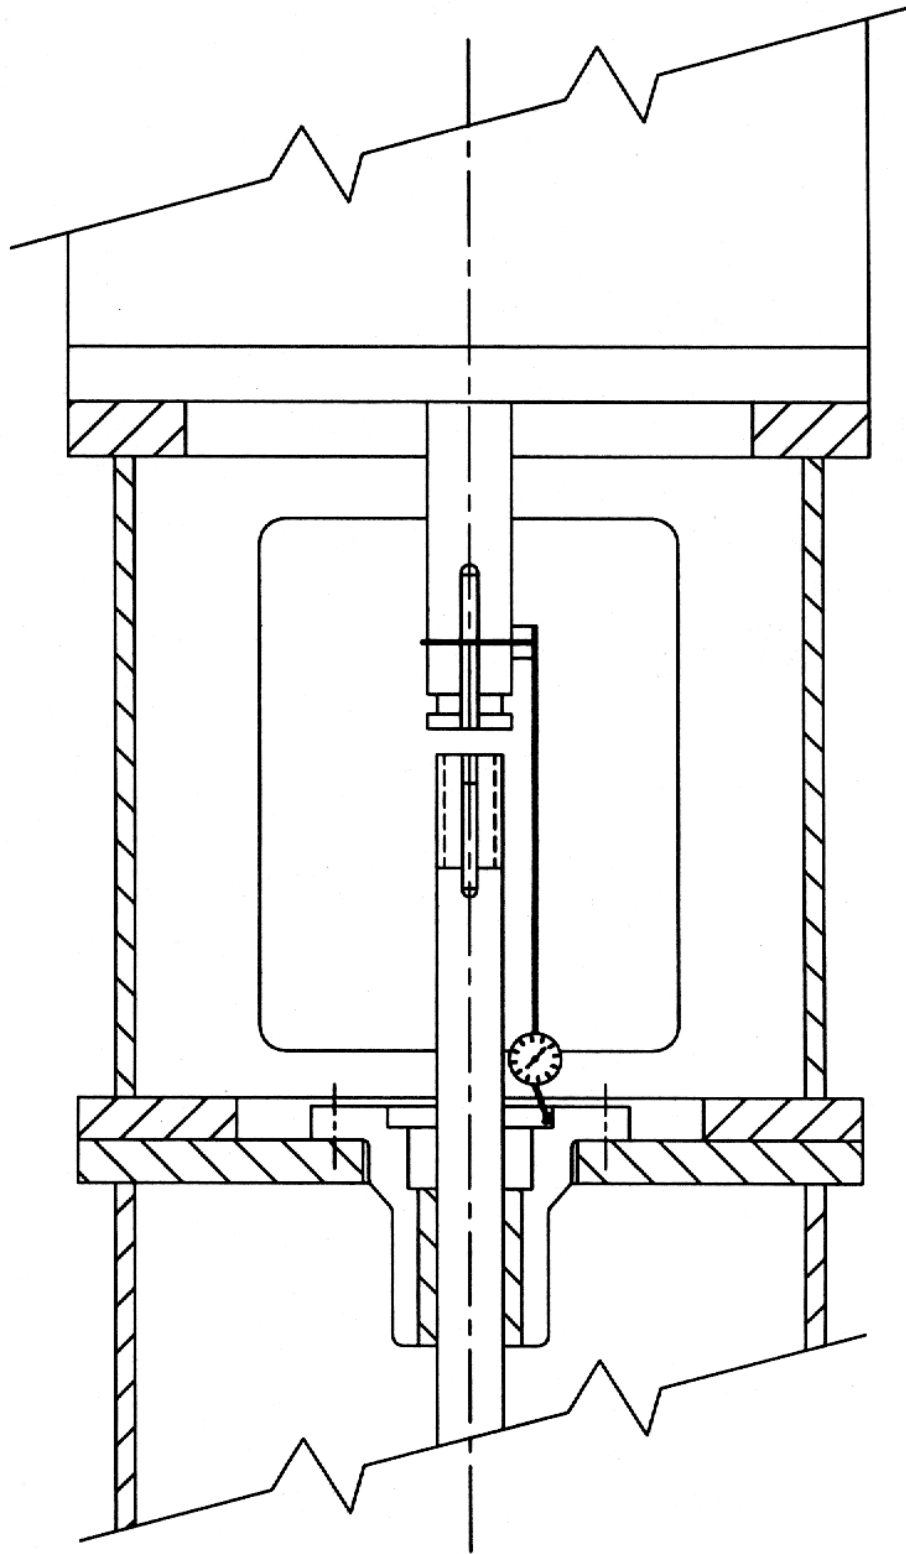

Fig. 10
- C. **Concentricity of Seal Housing** (See Fig. 10). This measurement will require that the mechanical seal be removed. Install dial indicator as shown. By rotating driver shaft by hand, run indicator in the inside machined surface of the seal housing to determine concentricity. If indicator reads above 0.004 in. (0.10mm) TIR, loosen the four driver tie down bolts and relocate driver on motor base register. Obtain desired position. Tighten tie down bolts. Repeat indicator reading.